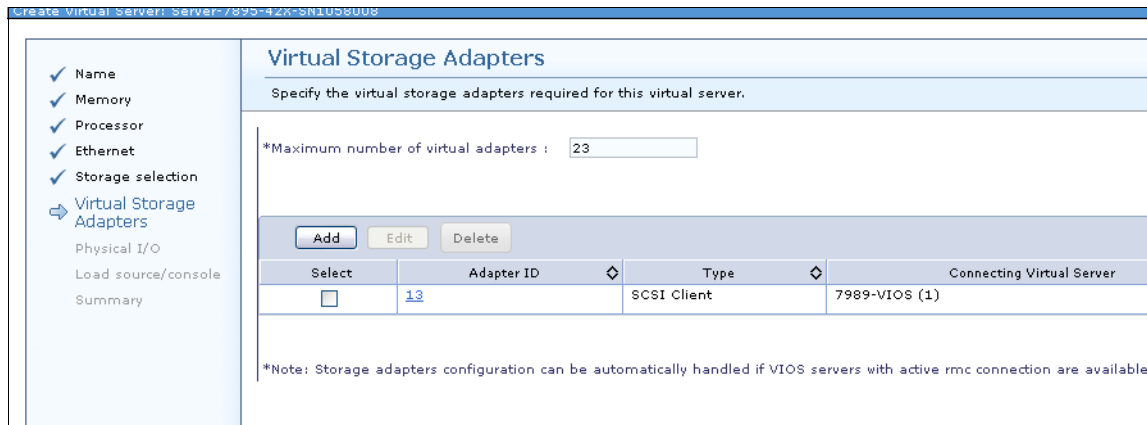

Figure 8-81 IBM i virtual server settings for virtual SCSI adapter
8. The main Virtual Storage adapter window opens, as shown in Figure 8-81. We create only one virtual SCSI adapter, so click **Next**.